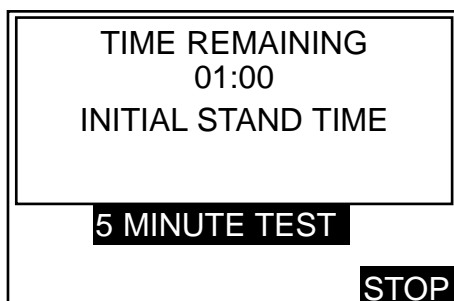

Figure 8. Initial stand time display screen.
2. On pressing the START key the display appears similar to figure 8.
2. On pressing the START key, TEST 1 is initiated. The display appears similar to figure 8. The display indicates that the initial stand time is being undertaken and time remaining is shown in minutes and seconds.
2. On pressing the START key, TEST 1 is initiated and the display appears similar to figure 8.